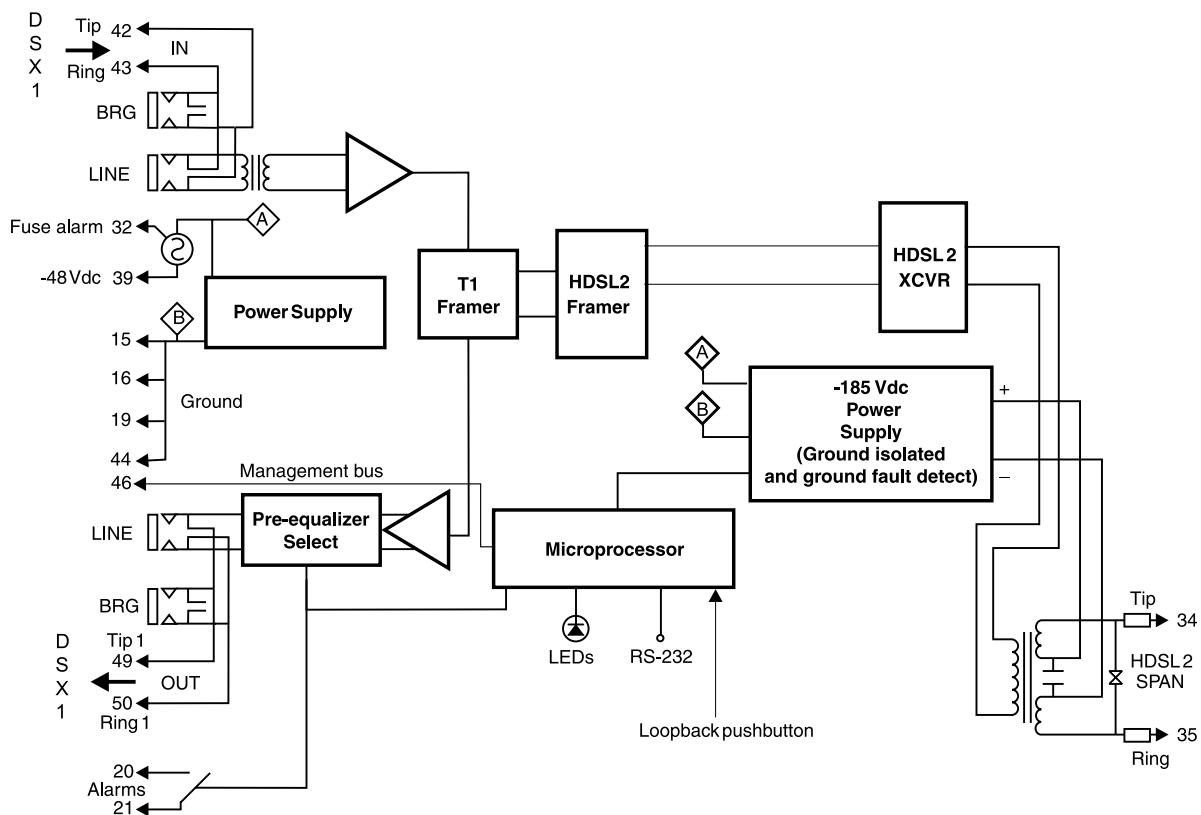

Figure 29. H2TU-C-231 List 1E Block Diagram
A block diagram of the H2TU-C-231 is shown in Figure 29. The H2TU-C-231 receives a 1.544 Mbps DSX-1 data stream from the DSX-1 digital cross connect interface. The H2TU-C contains a DS1 frame synchronizer controlled by an 8-bit microprocessor that determines the type of framing on the DS1 stream and synchronizes to it. The H2TU-C recognizes Superframe (SF) or Extended Superframe (ESF) framing. When the data is unframed, the H2TU-C arbitrarily defines a frame bit.